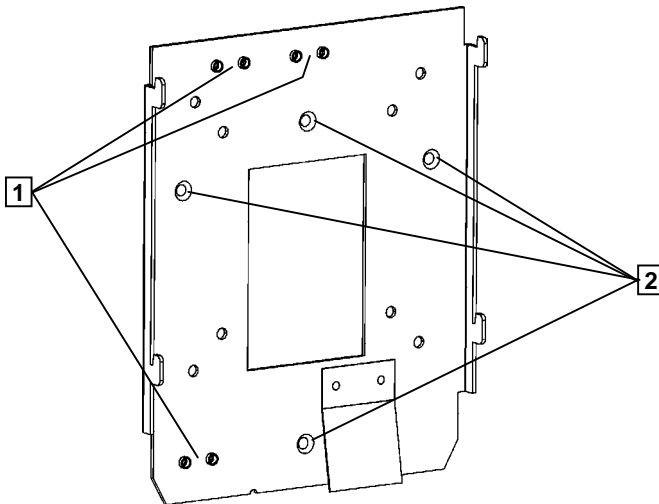

Fig. 2. Mounting plate
The checkers are designed for mounting on a wall or a pole. There should be used for this purpose the mounting plate, screwed to the wall through holes, with 3,5 or 4 mm diameter screws (Fig.2 item 2). The spacing of these holes is tailored to older versions of checkers produced by Elzab company. There is also the possibility to mount the device on the holder or extension by using additional holes dedicated for that purpose. Their spacing is adapted to the hole spacing of the commonly available holders (e.g. monitors).
The mounting plate features four taps that are used to hang the checker and the threaded bushes (Fig. 2 item 1). that enable to choke the cables by using the supplied components. After connecting the cable and hanging, the checker is automatically locked in the work position. This allows fast installation with no additional operations and also protects against unauthorized access to the interior of the device or a theft.